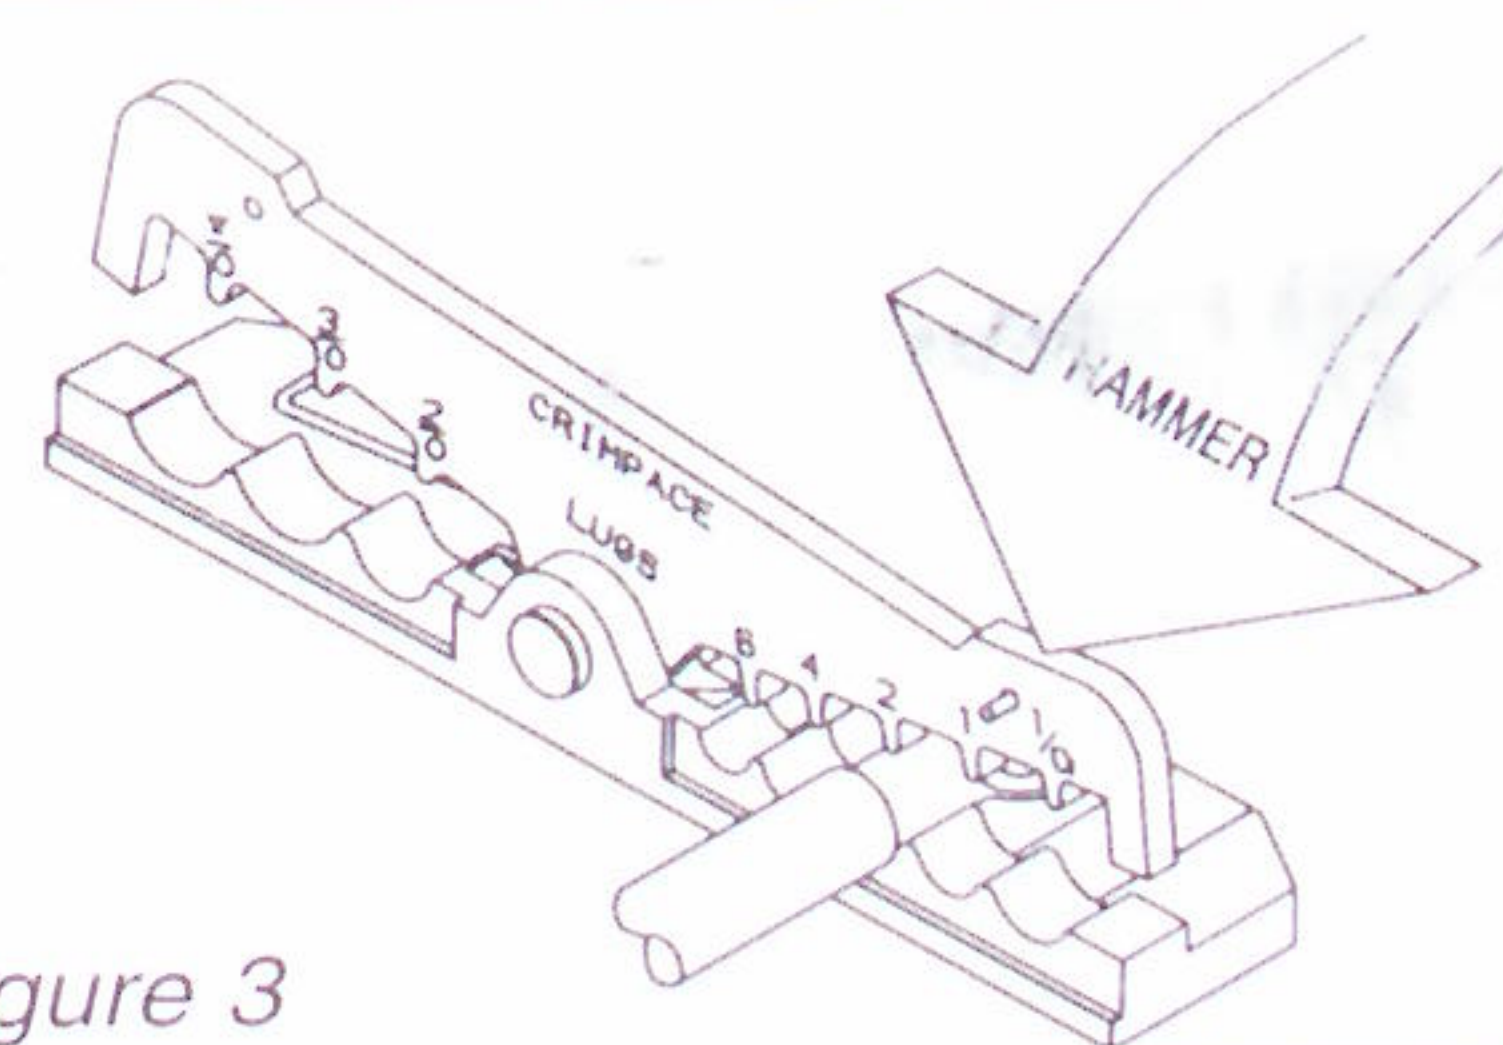

Figure 3
5. Hammer on end until crimp plate and base plate come together. The lug is now crimped and may be removed from the tool by pushing down on opposite end. See Figure 3.